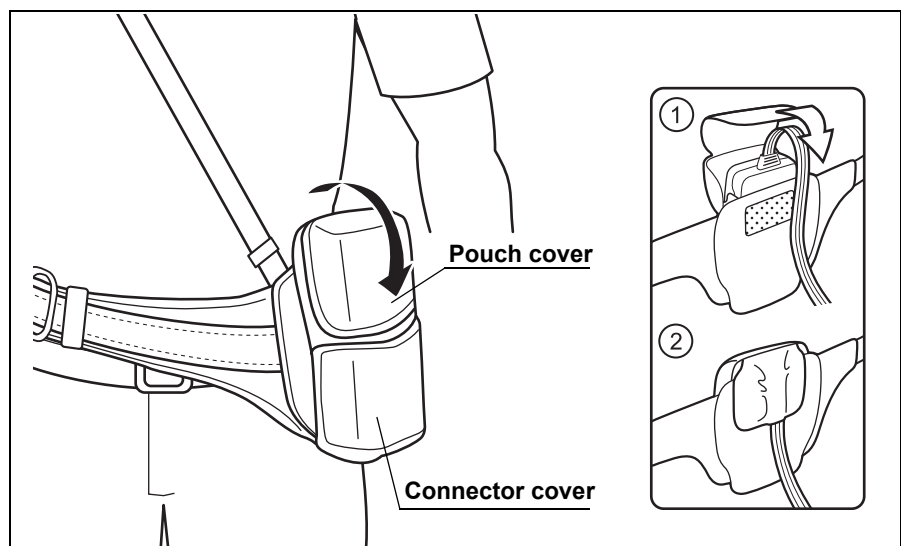

Figure 5.38
7. To secure the recorder unit to the pouch, close the pouch cover with the antenna cable passed through its side (or its center), then fasten the pouch cover with the Velcro straps (see Figure 5.38).